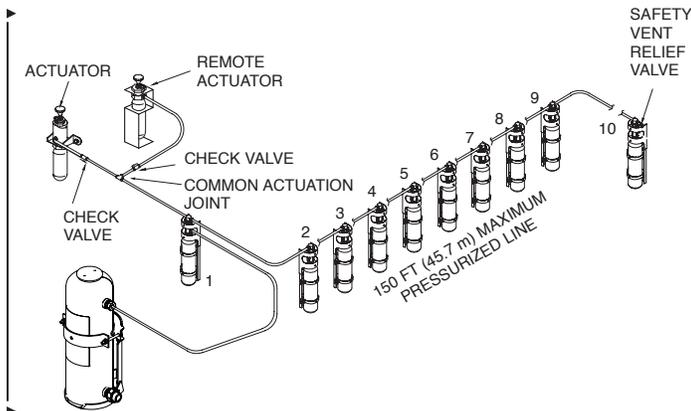

FIGURE 4-19
- ▶ 1. Any combination of LT-A-101-10/20/30, LT-A-101-50/125/250, and/or LVS-3, LVS-5, LVS-10, LVS-15 and LVS-30 actuators, the maximum number of electric-pneumatic actuators allowed is ten. See Figure 4-19.
- ▶ 3. When using more than one manual pneumatic actuator, keep the common actuation joint as close as possible to electric-pneumatic actuator on first expellant gas cartridge. The branch for each pneumatic actuator must include a check valve (Part No. 25627) as near as possible to common actuation joint. This preserves redundancy and minimizes length of pressurized line. See Figure 4-19.